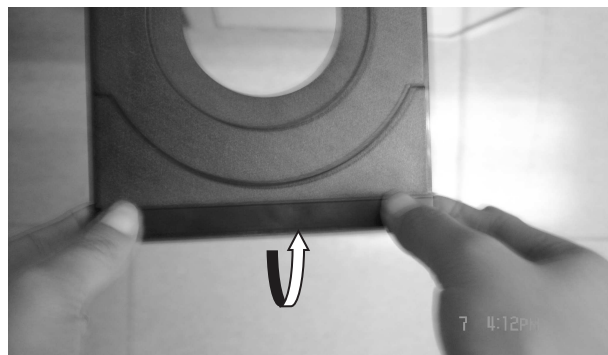

Figure 3
- 2) Return the set to its upright position and remove the Tray Cover as shown in Figure 3 and close the tray manually by pushing it back in.